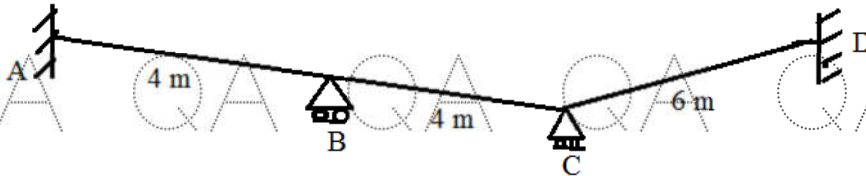

Figure 6
9. Analyze the continuous beam shown in Figure 6 by stiffness matrix method, if the supports B and C sink by 3 mm and 5 mm respectively with respect to the support A. Take $I = 4 \times 10^7 \text{ mm}^4$ and $E = 200 \text{ kN/mm}^2$. Draw BMD. [10]